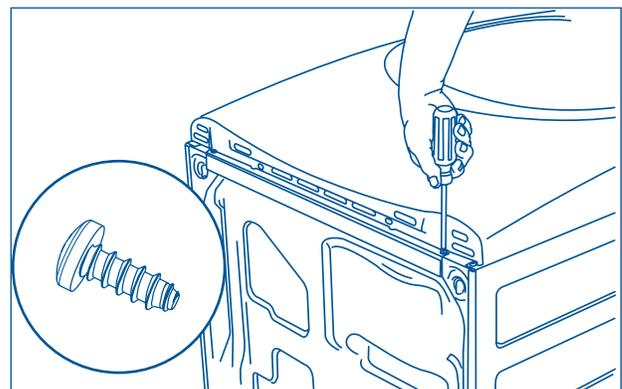

Figure 2-42.
4. Attach front stacking bracket to dryer front with (2) - #10 screws. (See Figure 2-42)